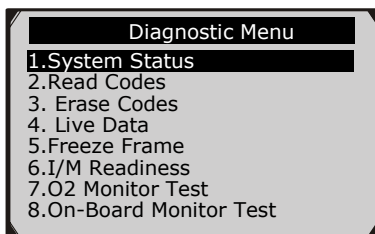

Figure 6.3
7) View a summary of system status (MIL status, DTC counts, Monitor status) on screen. (Figure 6.1) Press **OK** button for **Diagnostic Menu** (Figure 6.3) to come up.
- 1) Use **UP/DOWN** scroll button to select **Read Codes** from **Diagnostic Menu** and press **OK** button. (Figure 6.3)
- 1) Use the **UP/DOWN** scroll buttons to select **Erase Codes** from **Diagnostics Menu** and press the **OK** button. (Figure 6.3)
- 1) To view live data, use the **UP/DOWN** scroll button to select **Live Data** from **Diagnostic Menu** and press the **OK** button. (Figure 6.3)